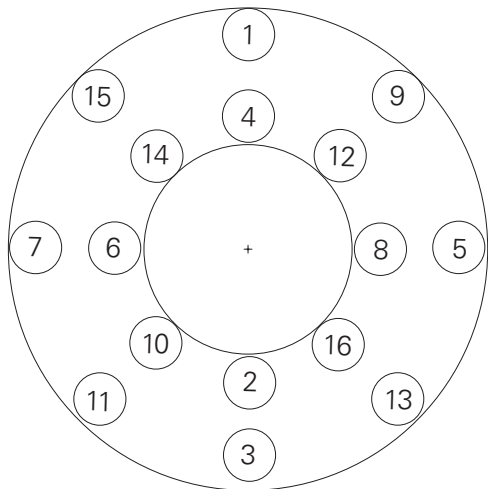

Figure 14
- (a) For the first 16 screws, bring the initial torque of each screw up to 33% of the torque value shown in Table 2 using the tightening sequence shown in Figure 14. Install and torque the remaining screws in any reasonable crosswise pattern to 33% of the torque value shown in Table 2.
- (b) Repeat the sequence of torque tightening on the first 16 screws as shown in Figure 14 and bring each screw up to 66% of the torque value shown in Table 2. Torque the remaining screws in any reasonable crosswise pattern to 66% of the torque value shown in Table 2.
- (c) Repeat the sequence of torque tightening on the first 16 screws as shown in Figure 14 and bring each screw up to 100% of the torque value shown in Table 2. Torque the remaining screws in any reasonable crosswise pattern to 100% of the torque value shown in Table 2